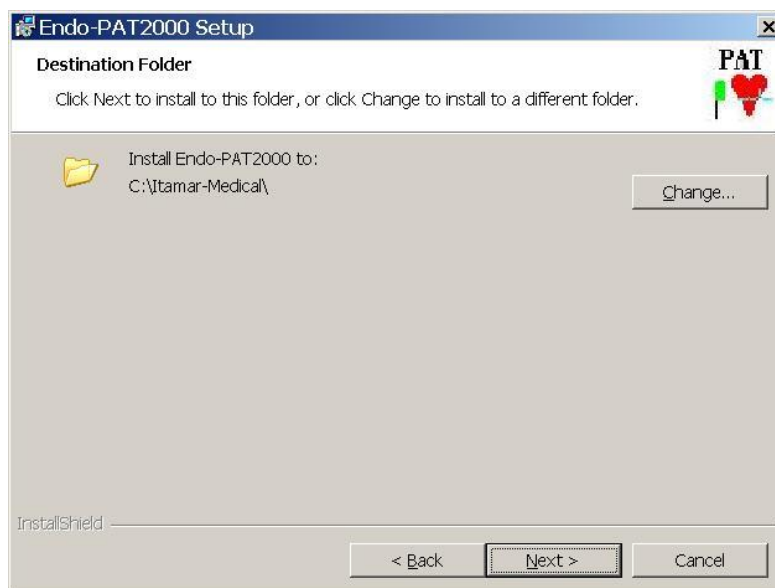

Figure 6 - Installation folder selection
5. Click “Next” to set the default target folder for software installation, or click “Change” to select a different folder for the installation (Figure 6).